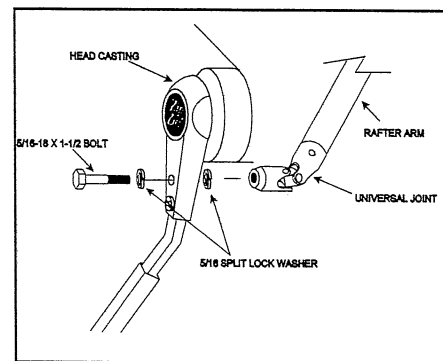

Fig. A4
- 2) Disconnect rafter arms (**Fig. A4**): Unbolt from head castings using $\frac{1}{2}$ " hex wrench. Release set screw in rafter base on coach ($\frac{3}{32}$ hex key) and slide rafter arms off and store.